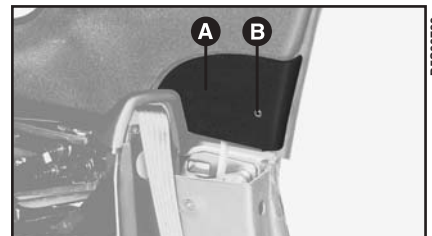

fig. 66
7) Refit side panels **A-fig. 66** over the hard top upholstery and fix them with screws **B**.